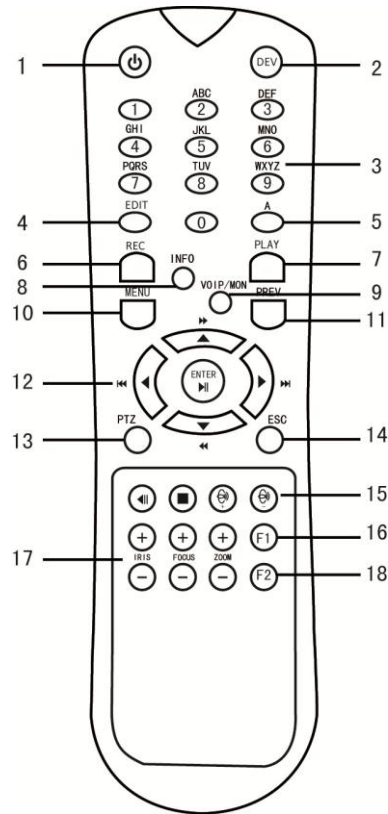

Figure 13 IR Remote Control
2. **IR Receiver:** Your DVR may also be controlled with the included IR remote control, shown in Figure 13. Batteries (2XAAA) must be installed before operation.
The keys on the remote control closely resemble the ones found on the front panel. Referring to Figure 13, they include: